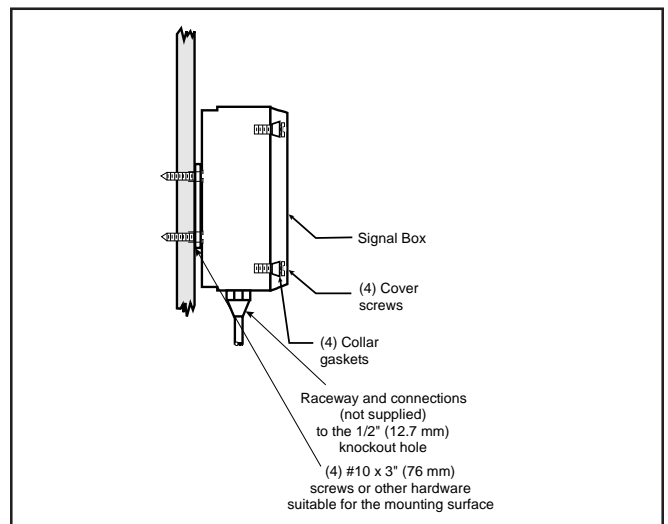

Figure 1. Adaptatone Mounting
1. Mount Adaptatone as shown in Figure 1.
- a. **Flat Surface Mounting.** Secure unit to mounting surface using the (4) mounting holes in the mounting plate on the rear of the box. Use the #10 x 3" (76 mm) wood screws (furnished loose) or other hardware (not supplied) suitable for the mounting surface.
- b. **Rigid Pipe Mounting.** Loosen the (4) cover screws from the signal box and lift off signal box cover.